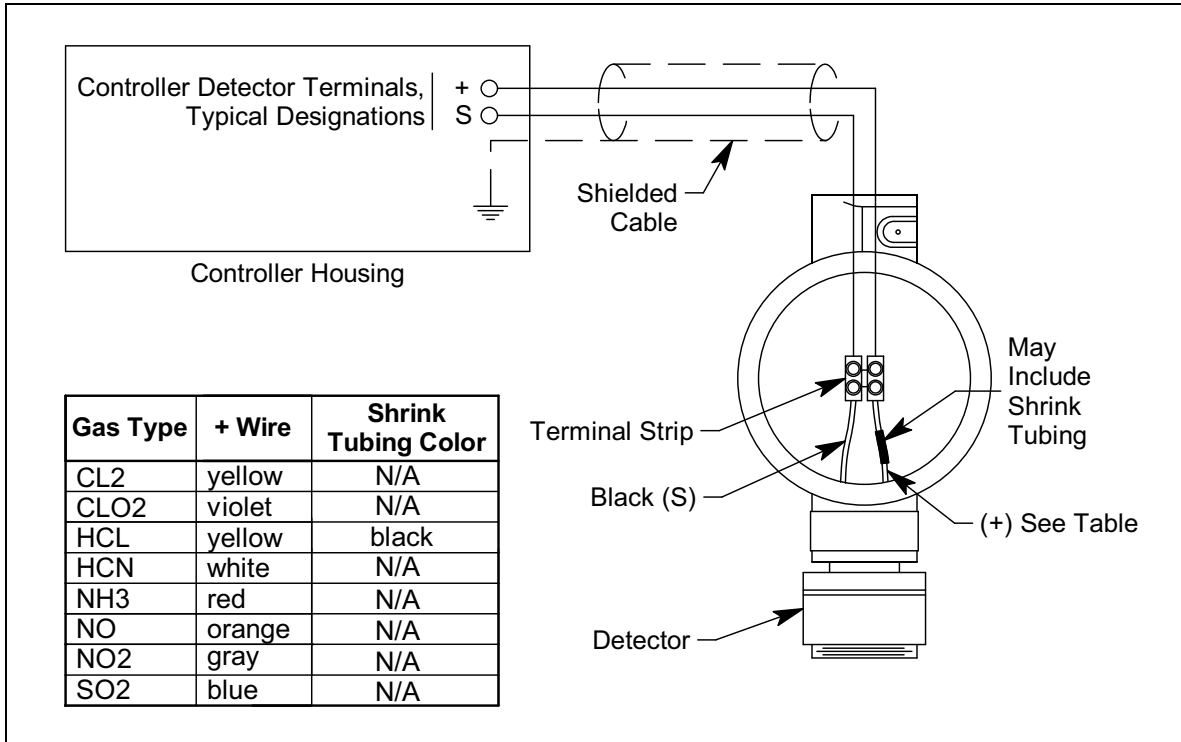

Figure 4: Wiring to a Controller
The detector housing body protects the electronic components within the housing. Use the mounting threads at the top of the housing to screw the detector into a 3/4 NPT hub. Two wires extend from the top of the detector housing body. Use these wires to connect the detector to a controller. One of the wires is black and the other wire is color coded and may have a colored band of shrink tubing. See Figure 4 on page 11 for the color code assignments.
3. If the detector is mounted remotely from a controller using the junction box, proceed to step 4. If the detector is mounted directly to a controller, connect the detector's color-coded and black wires to the appropriate controller detector terminals (see Figure 4 for the color coding of the non-black wire) and skip to the Startup Section.